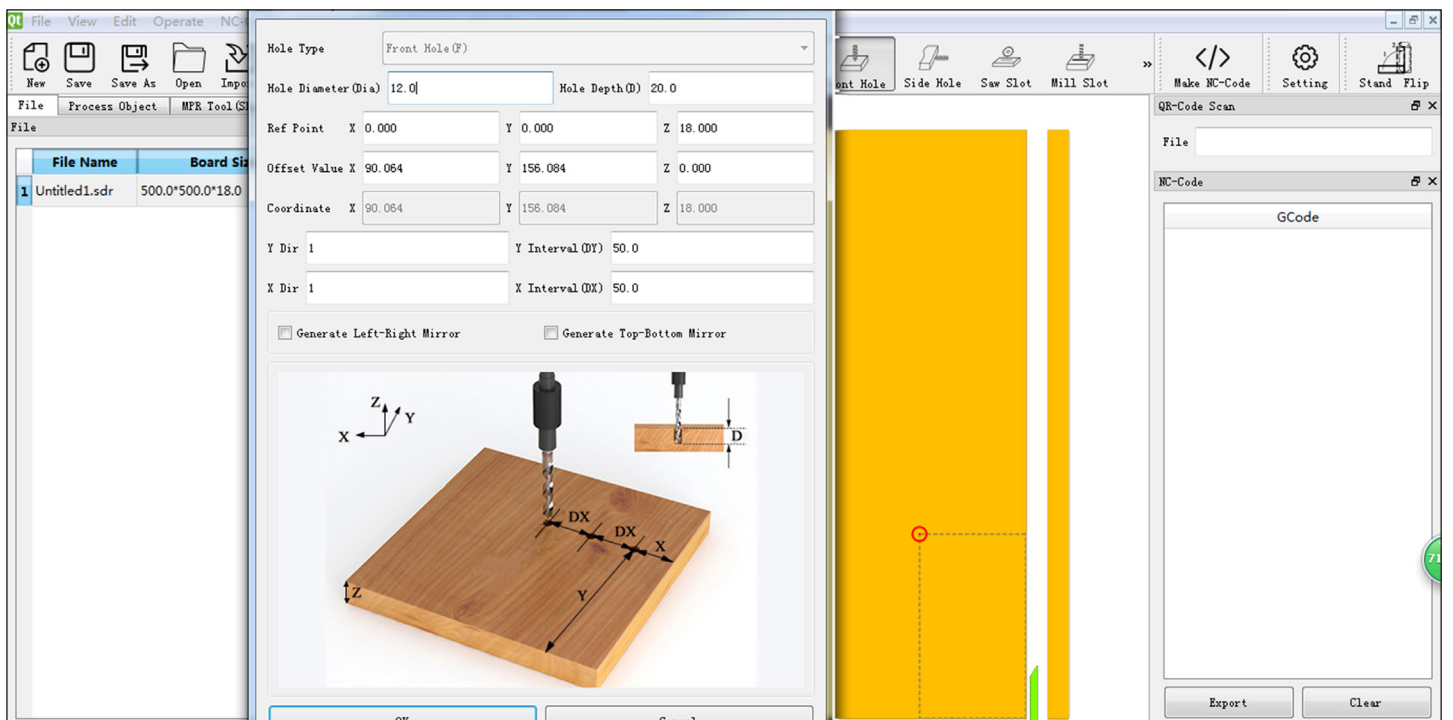
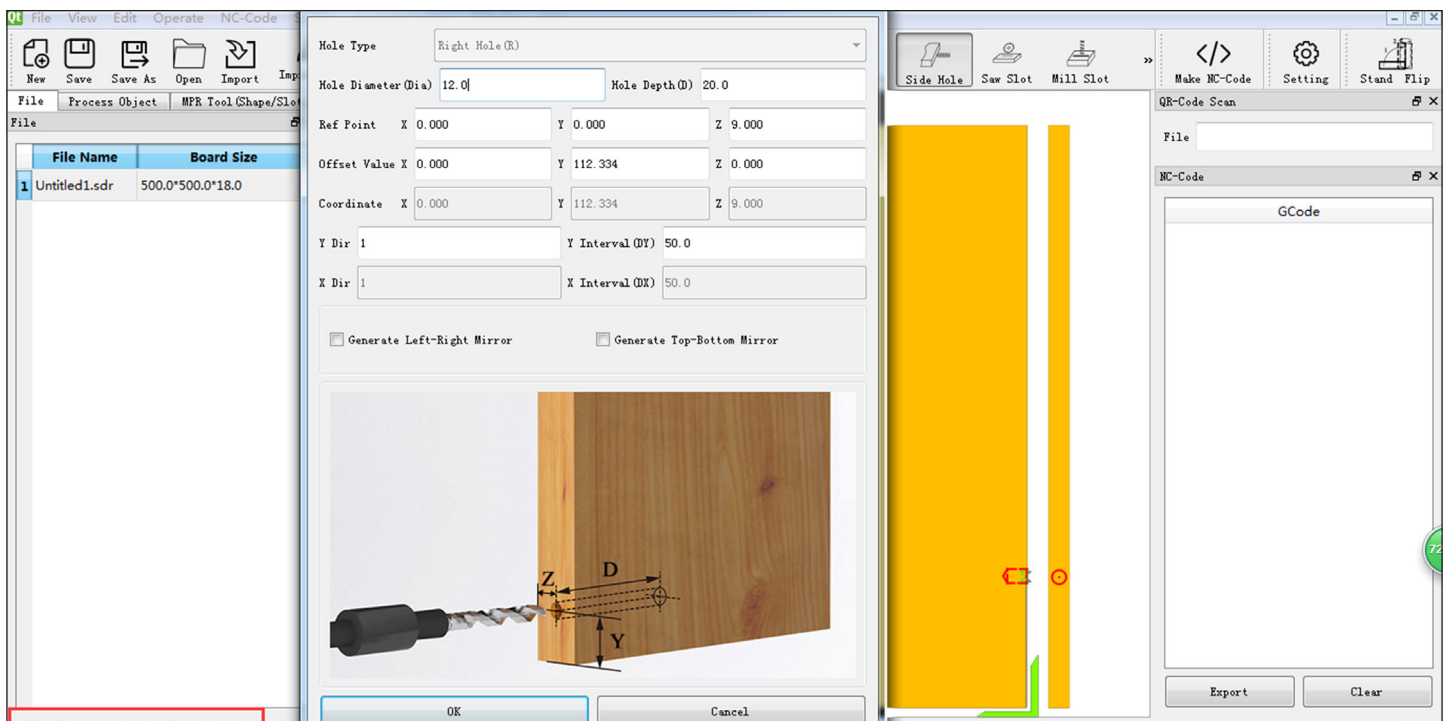

Fig. 6.5e
Fig. 6.5f
Click "Operate / Front Hole" to enter the "Front Hole" mode. As shown in Fig 6.5e, pay attention to the notice in the status bar at the lower left corner of the figure. First, you need to specify the reference point of the front hole. You can select any point on the board, such as the origin of the coordinate. Then you need to specify the position of the hole and click the selected point with the mouse. After clicking the mouse, the Hole Properties dialog box will pop up. The dialog box mainly includes the hole type (Front Hole (F), Right Hole (R), Left Hole (L), Top Hole (T), Bottom Hole (B), Back Hole (N)), Hole Diameter, Hole Depth, Reference Point, Offset Value (relative to the reference point), Coordinate (coordinates in the board coordinate system, can only be displayed), Hole layout: Y-direction hole qty, Y-direction Interval, X-direction hole qty, X-direction Interval, hole mirroring (Generate Left-Right Mirror, Generate Top-Bottom Mirror). Click "Operate / Side Hole", to enter the "Side Hole" mode. As shown in Fig 6.5f, the reference point is also specified, followed by the location of the hole. When the mouse moves near the four sides of the board, the system will automatically capture the point of the board edge. According to the different border of the hole, there are four kinds of side holes: right side hole (R), left side hole (L), top hole (T) and bottom hole (B). The hole property dialog box of the side hole is consistent with the front hole, which is not described here again.